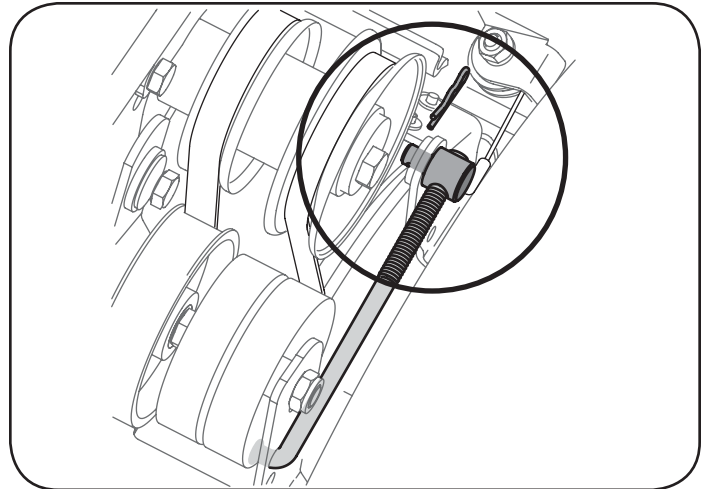

Figure 25
4. Remove the hairpin clip and flat washer from the ferrule in order to disconnect the auger idler rod from the brake bracket assembly. See Figure 25.